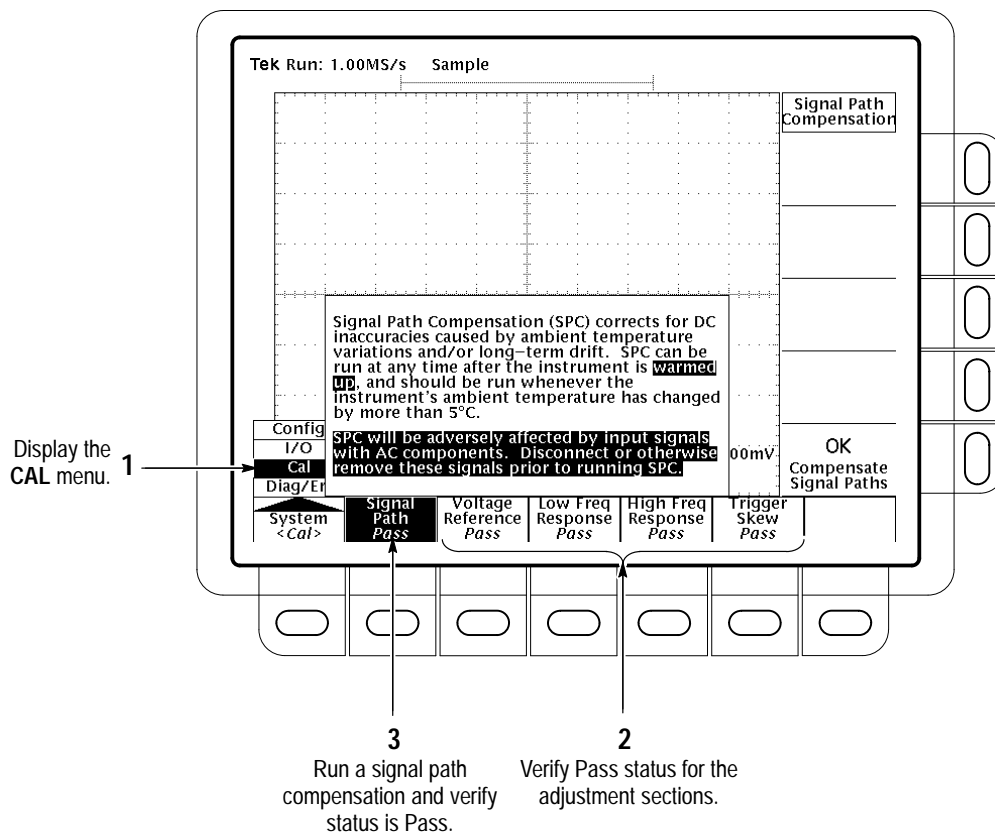

Figure 1–2: Verifying Adjustments and Signal Path Compensation
- Verify that the word **Pass** appears in the main menu under the following menu labels: **Voltage Reference**, **High Frequency Response**, **Low Frequency Response**, and **Trigger Skew**. (See Figure 1–2.)